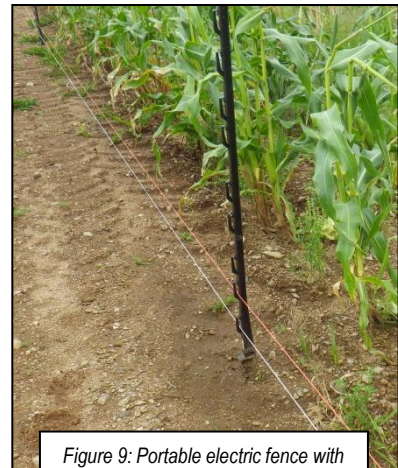

Figure 9: Portable electric fence with two low strands
- A temporary electric fence with two strands of wire placed strategically low to the ground (**Figure 9**) has proven to be very effective. However, vigilant maintenance of the electric fence system, including weed control, is essential as raccoons seem to detect exactly when the system is not working properly.